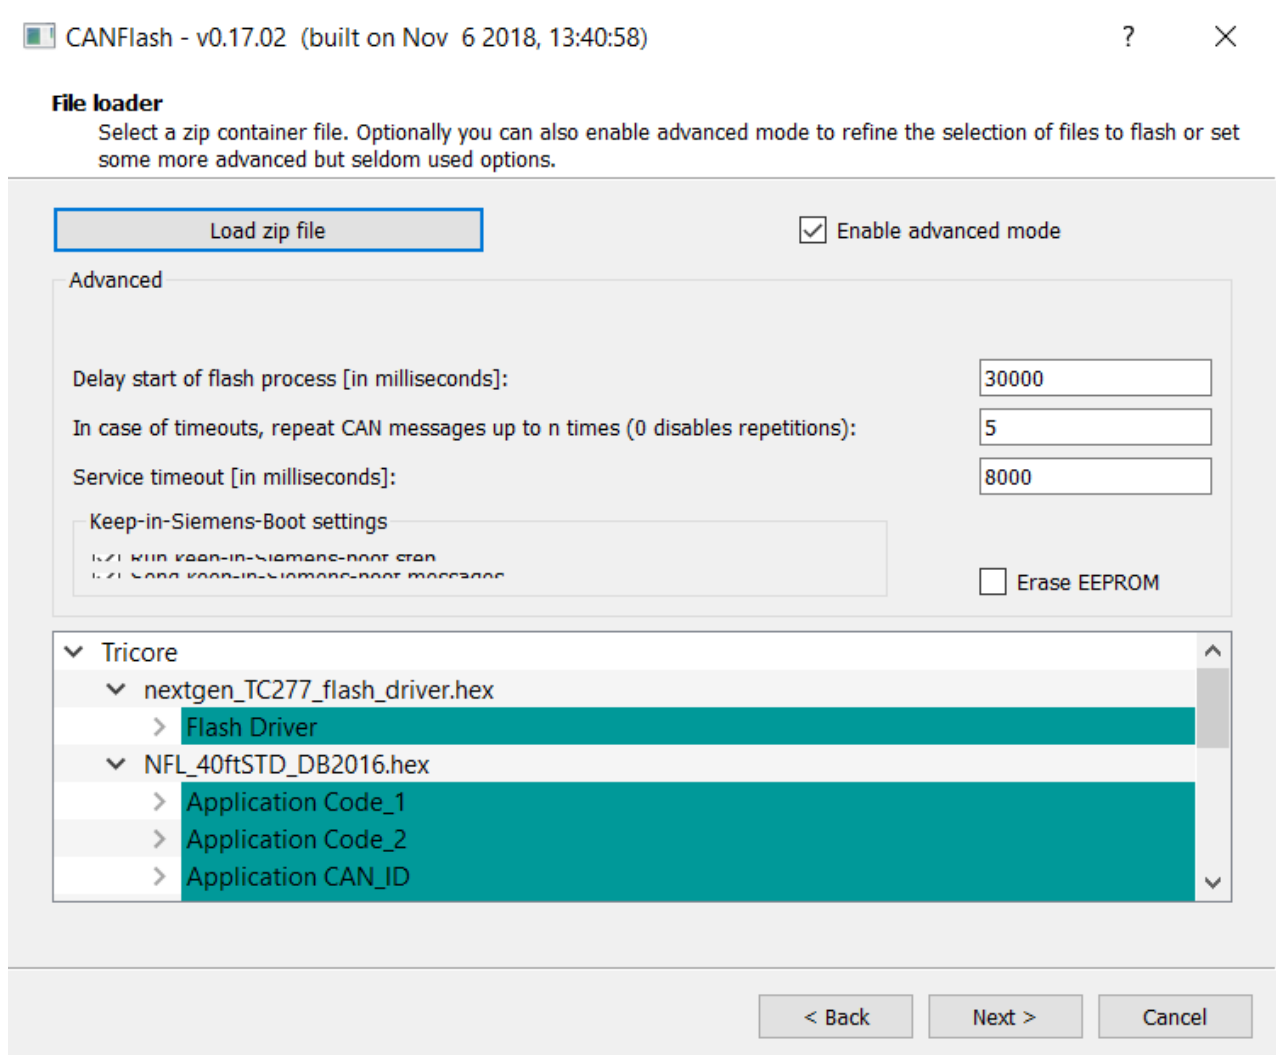

Figure 14: Advanced settings for CANFlash
42. Click the **Enable advanced mode** button. Change the **Delay start of flash process** box to 30000. Change the **repeat CAN messages** box to 5 (see figure 14). Click **Next** when complete.